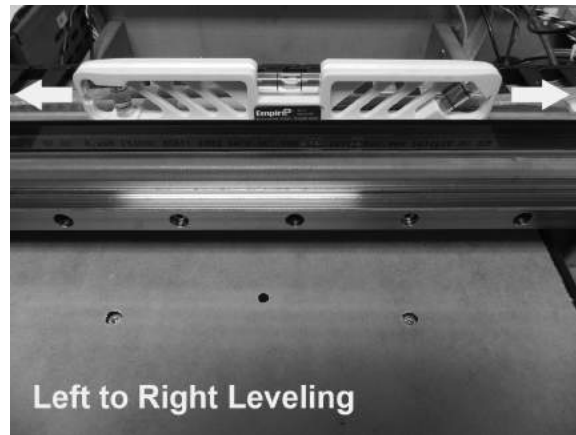

Figure 2.4a: Leveling the Left to Right Axis of the Printer
- Next it is necessary to make certain that the printer itself is level. There are 6 adjustable feet under the case of the printer. To level the printer on the left to right axis, open the printer's top cover and place a 9" or 12" "torpedo level" on the plate behind the carriage drive belt (see figure 2.4a).